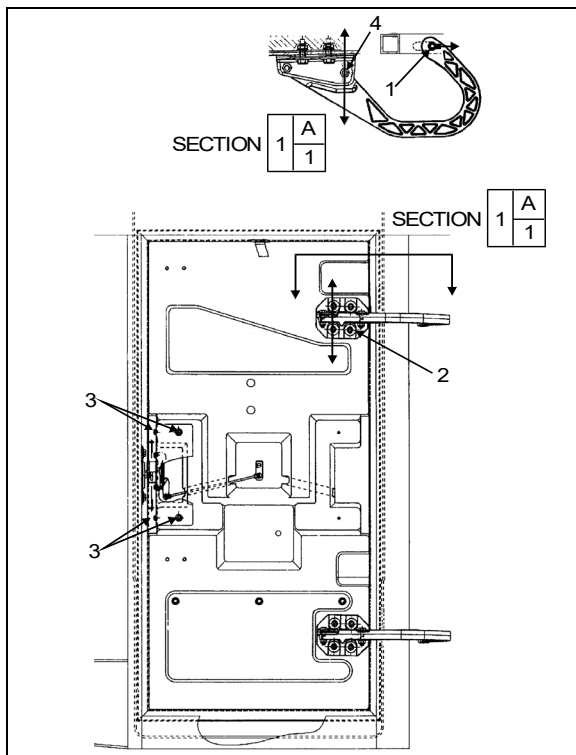

FIGURE 97: MAIN POWER COMP. DOOR
1. Loosen nut (1, Figure 97).
3. Tighten nut (1, Figure 97).
4. Loosen nut (4, Figure 97).
7. Loosen screws (2, Figure 97). Screws allow the door to be shifted "UP or DOWN".